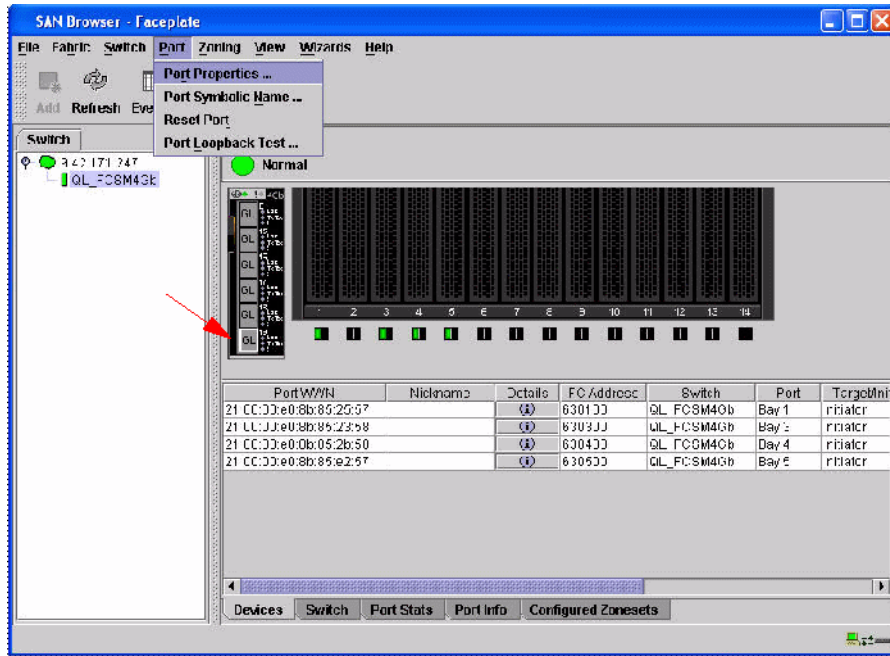

Figure 7-47 SAN Browser - Faceplate window
4. From the Faceplate window, select your desired E-Port. Next, select **Port** → **Port Properties** (Figure 7-47). In our example, we designated port 19.